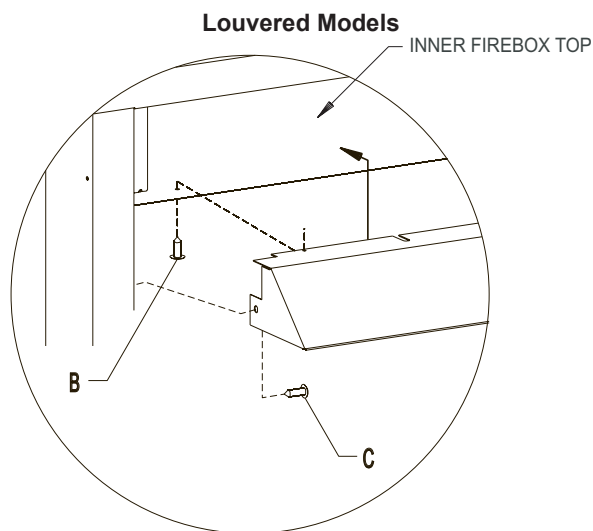

Figure 9
2. Place the top hood flange on top of the inner firebox top, then install three screws through the firebox top from below and screw into the pilot holes in the hood flange (B).
3. Install one (1) screw at each end of the hood as shown (C).
**Caution:** All hoods must be installed prior to operation of appliance. **See Figure 9.**